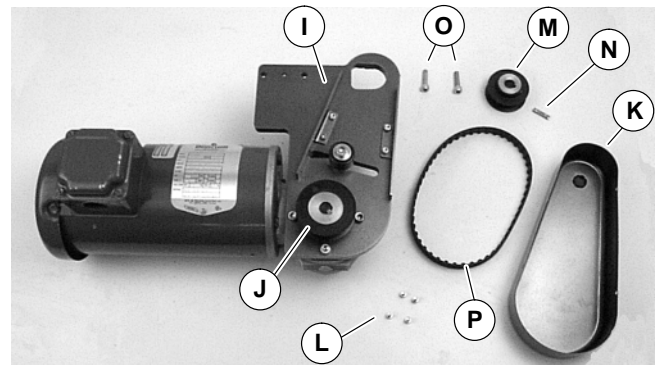

Figure 3
1. Typical components (Figure 3)
NOTE: Flat belt mounting package shown above (Figure 3), cleated belt mounting package similar.